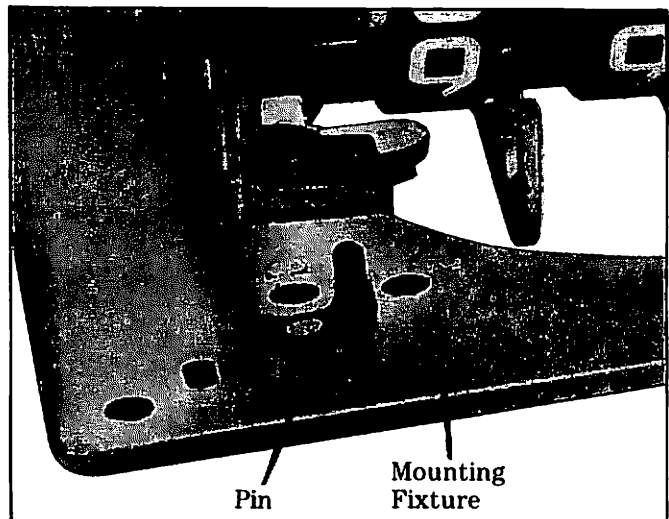

Figure 26. Installation Of Meter Register Onto Mounting Fixture.
- a. For proper measurement, the meter register must be installed in the TD-42383 mounting fixture, Figure 26, to constrain the frame into the same position that it is when installed in the housing.